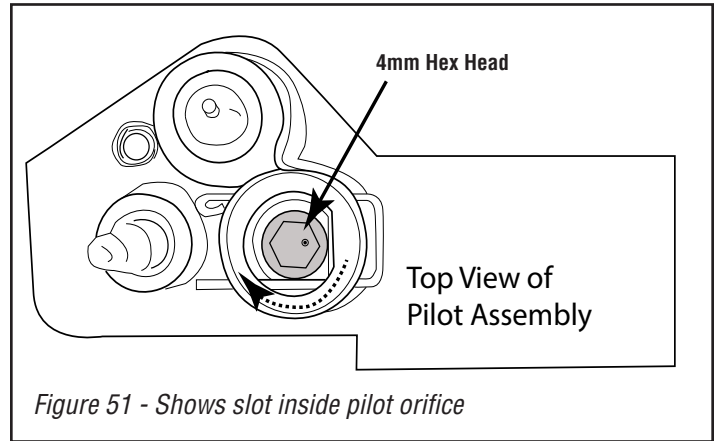

Figure 51 - Shows slot inside pilot orifice
Step 9. Insert a small 4mm hex head wrench into the top of the brass orifice inside the pilot assembly and turn clockwise until it stops (approximately 2 full revolutions). *See Figure 51.*